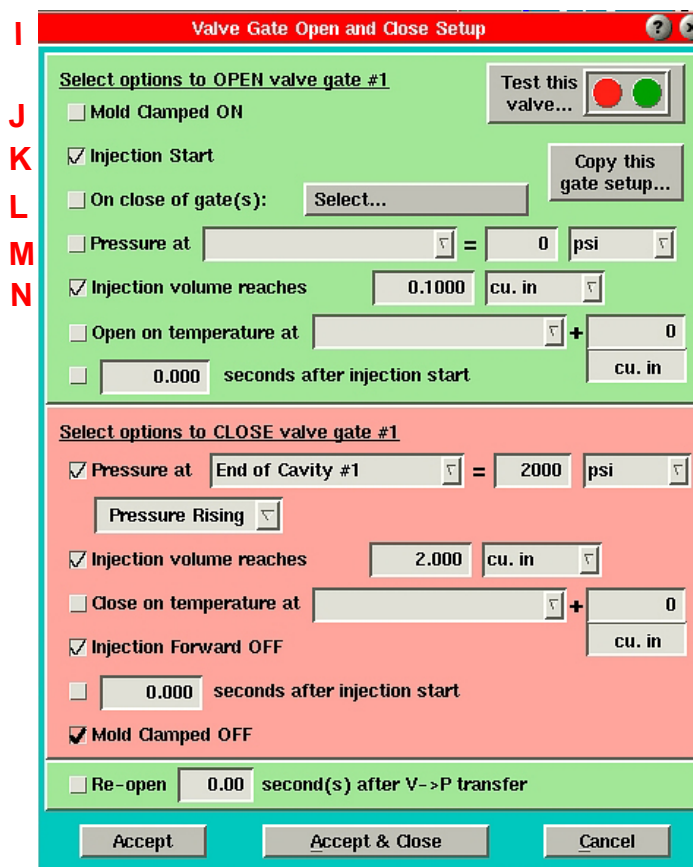

Figure 14: Valve Gate Open and Close Setup tool
- E. Close Valve at Volume:** When the volume (from the stroke/screw area) reaches this level, the valve will close. If this field is highlighted in blue, the valve closed on volume. The value in this column is shown in the units selected on the Valve Gate Close Control screen (Figure 14).
If the value is gray and cannot be set, the Close on Volume control is not enabled. Open the Valve Gate setup screen (Figure 14) and check the "Injection volume reaches" box.
- H. Setup:** Each valve gate has separate settings for open and close controls. You can set them by clicking the Setup button for each specific valve gate and choosing either Valve Open Control or Valve Close Control from the menu. In addition, you can test the operation of the valve gate control contacts by selecting "Test this valve". (See Figure 14)